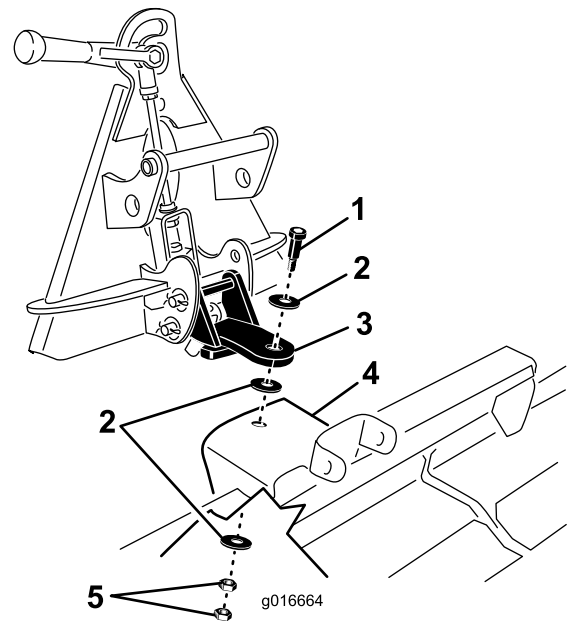

Figure 3
1. Secure the pivot assembly to the tooth rake with a shoulder bolt, (2) washers and (2) jam nuts, positioning as shown in Figure 3.